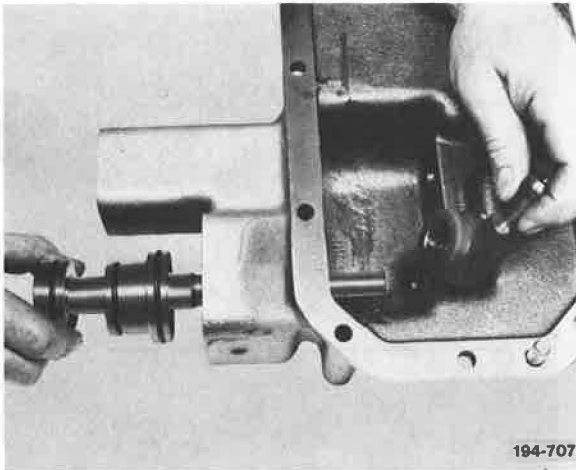

Figure 187. Removing Shift Rail and Shifter
19. Slide Hi/Direct shift rail rearward out of cover, and, as it moves, remove Hi/Direct shifter through bottom opening. See Figure 187.